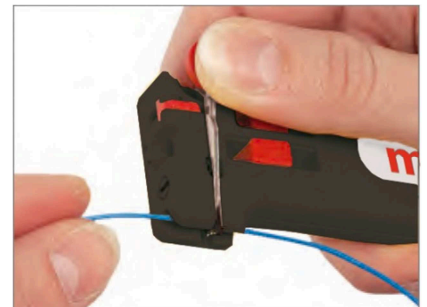

Figure 6
6. To use the Wire Cutter for wire up to 0.4mm diameter (26 AWG), insert the wire and depress the Stripper Blade Lever. See Figure 6.